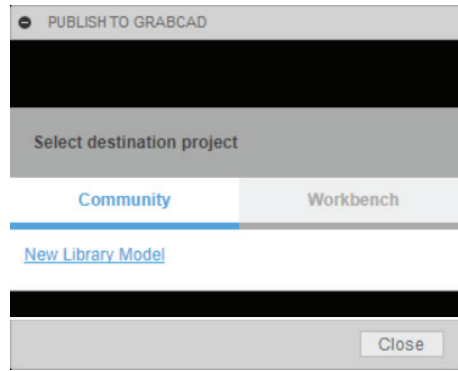

Figure-34. PUBLISH TO GRABCAD dialog box
- Once you have login to your account, the dialog box will be displayed as shown in Figure-34.